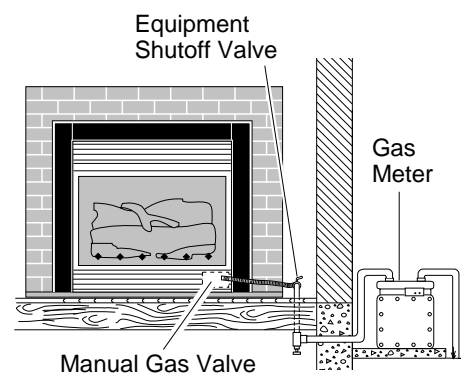

Figure 21 - Checking Gas Joints
- Check all joints from gas meter to equipment shutoff valve (see Figure 21). Apply mixture of liquid soap and water to gas joints. Bubbles forming show a leak.
- Check all joints from equipment shutoff valve to thermostat gas valve (see Figure 21). Apply mixture of liquid soap and water to gas joints. Bubbles forming show a leak.